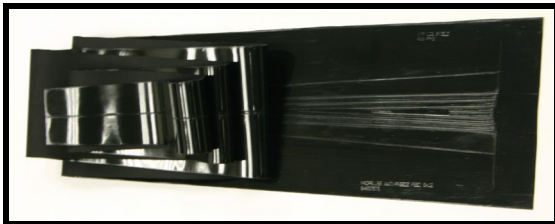

FIGURE 6.1
6.1 SMR Anti-Freeze Feed Shoe systems remove propeller ice accumulation during flight by distributing anti-freeze liquid over potential icing areas on propeller blades. The liquid is directed onto the grooved propeller shoe and distributed along the blade's leading edge. (Figure 6.1)